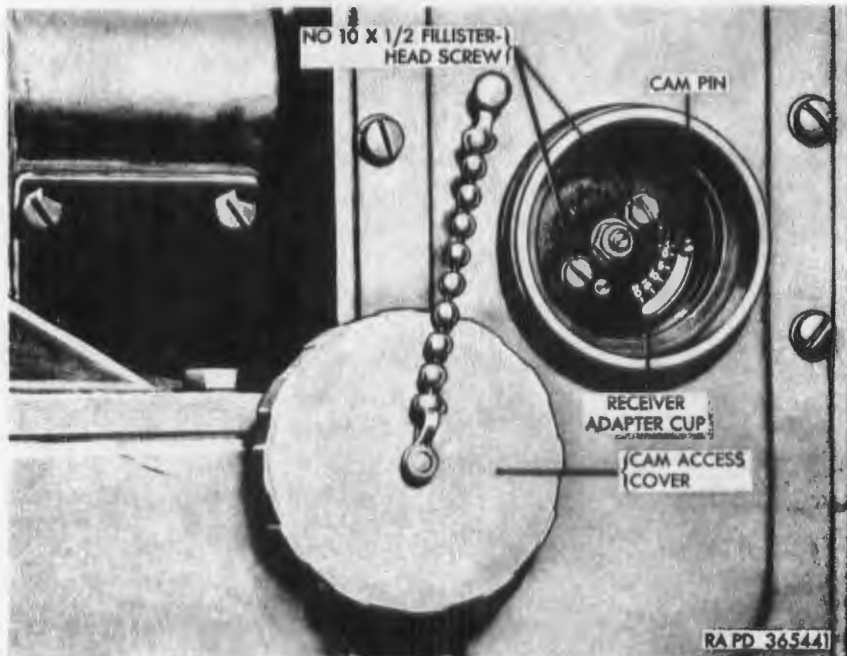

Figure 261. Elevation oil gear hydraulic limit stop adjustment components.
- (6) Unscrew cam access cover (fig. 261) on elevation oil gear and check setting of hydraulic limit stop adjustment components. Cam pin should be opposite the -3° reading on the receiver adapter cover. If maladjustment is evident, correct setting (par. 272c).
- (a) Unscrew cam access cover (fig. 261) on elevation oil gear and check that cam pin is opposite the -3° marking. If necessary to reset cam pin, loosen the two fillister-head screws on the receiver adapter cup and move the cam pin until it is opposite the -3° mark. Tighten the two No. 10 x $\frac{1}{2}$ fillister-head screws.